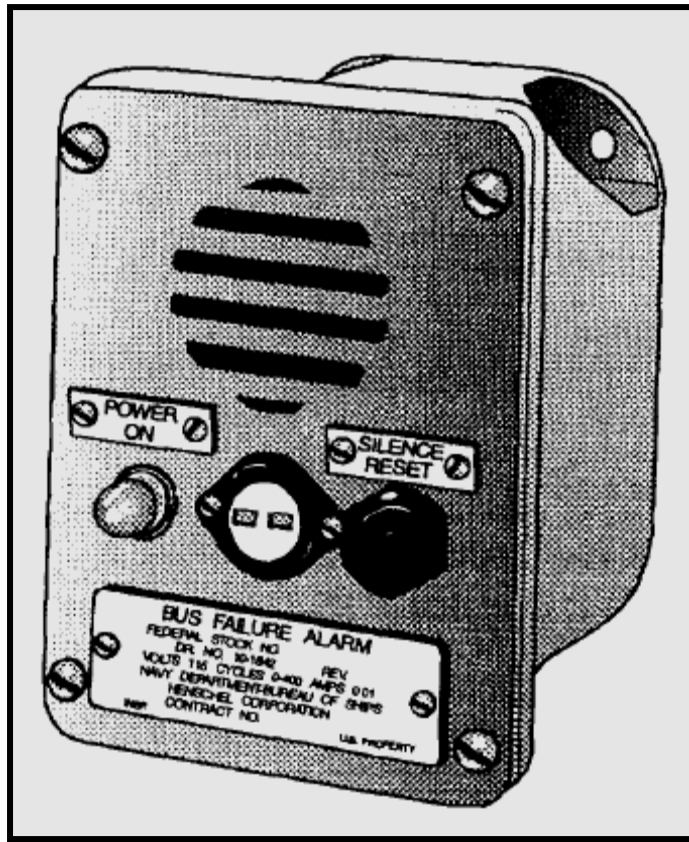

Figure 3-26.—Type IC/E1D1 electronic signal unit.
**BUS FAILURE ALARM UNIT.**— The type IC/E1D1 electronic signal unit (fig. 3-26) is designed as a bus failure alarm. The unit contains an electronic solid-state oscillator, which drives a 2-inch howler unit that provides an audible signal upon loss of power on the supervised bus. A red drop flag installed on the unit provides a visual signal upon loss of power.